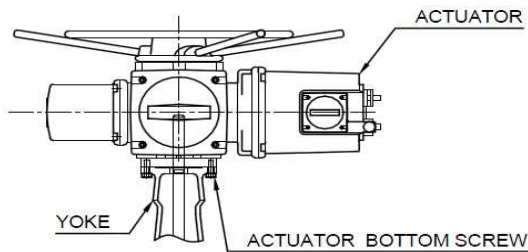

Fig. 8
- In order to dismount actuator/gear unit from valve, after unscrewing the bottom screws of yoke, lift the actuator/ gear unit slightly and rotate it for few turns in counter-clock wise direction so as to remove the stem from actuator bush. Thus actuator/gear unit can be dismantled from valve. (Fig. 8 & 9)